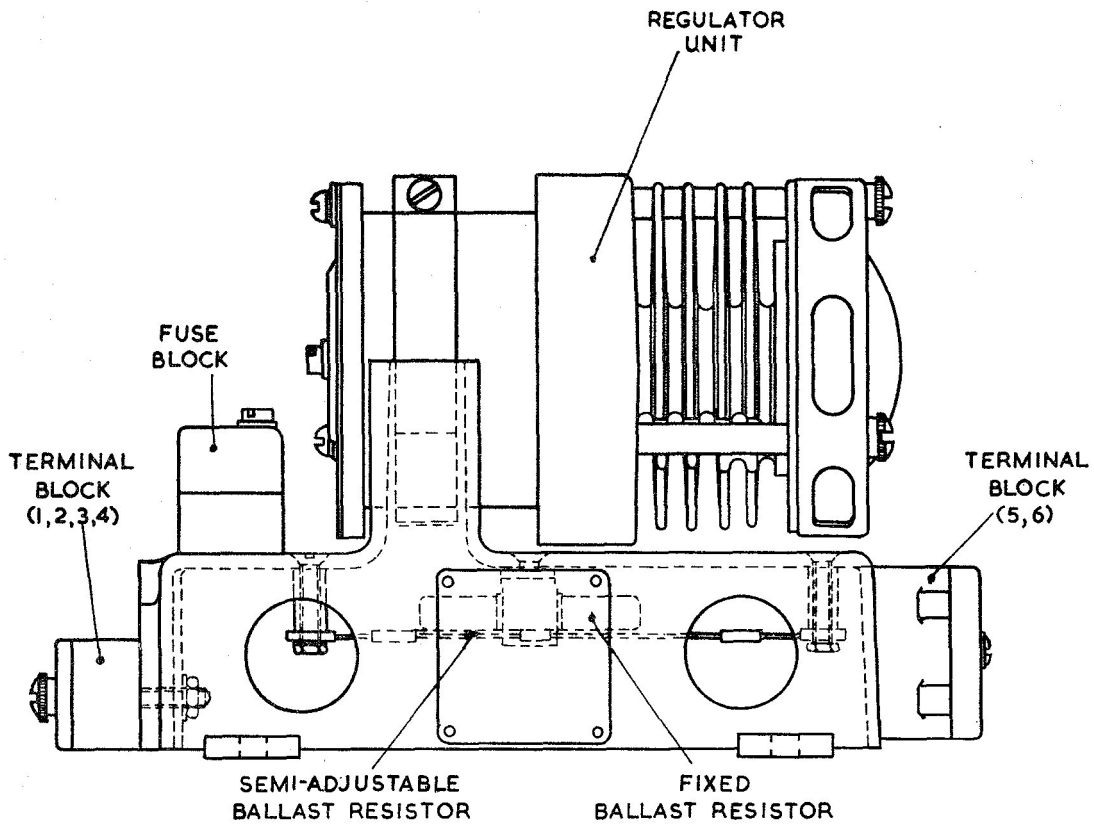

Fig. 1. Voltage regulator, Type 66
2. This regulator (fig. 1) is of the single carbon pile type, and in general construction and principle of operation is similar to the standard design as described in A.P.4343, Vol. 1, Sect. 6, Chap. 1. ◀ The pile is 1½ in. long, and consists of a minimum of 38 1-mm. washers. ▶